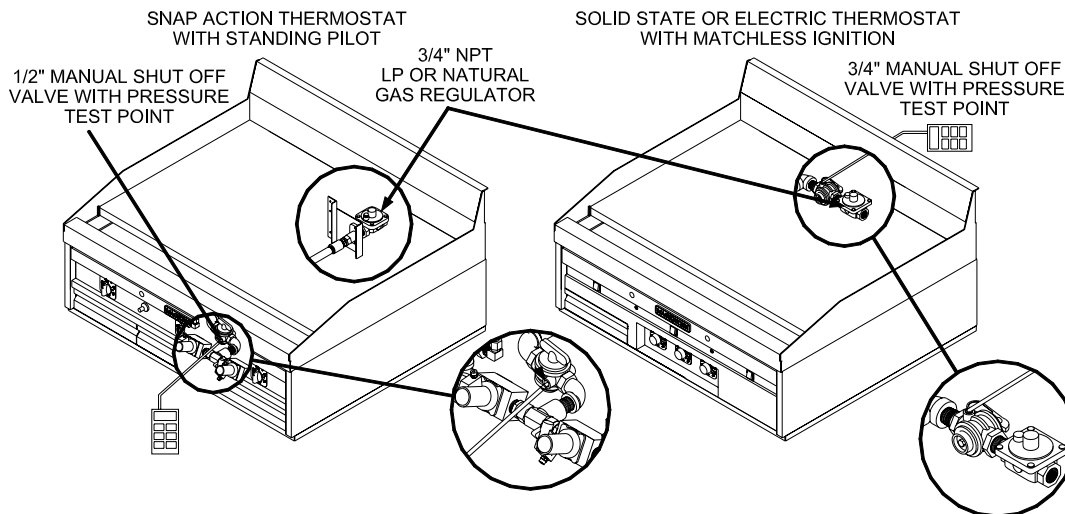

Figure 6
1. The gas input regulator for your new appliance have been installed at the factory, See Figure 6 for the location of the regulator manual shut off valve equipped on your appliance. Using a regulator other than the one supplied with the unit will void the warranty.
2. The manifold pressure must be maintained at the pressure marked on the Data plate. For appliances equipped with Solid State or Electric Thermostat controls the pressure reading is taken at the pressure test point supplied on the 3/4" manual shut off valve, see Figure 6. For all other griddles, a pressure test point is supplied on the 1/2" manual shut off valve located behind the door, also see Figure 6.
Orifices are sized to provide proper gas flow to the rated BTU/hr for each model. Regulator pressure must be measured and adjusted before the unit goes into service, following installation and when operational performance is in question. The manifold pressure readings are taken at the pressure test points on the supplied manual shut off valves, see Figure 6.
2. Open front door of the griddle, turn the manual gas shut off valve to the "ON" position, see Figure 6.
2. Turn the Manual gas shut off valve to the "ON" position, this valve is located at the rear of the unit, see Figure 6.
3. Turn the **RED "I/O"** switch to the " I " (ON) position for all desired Thermostats to be operated, See detail Method B at right. When the Pilot ready (Amber) light illuminates, the pilot(s) are ready to operate the main burners.